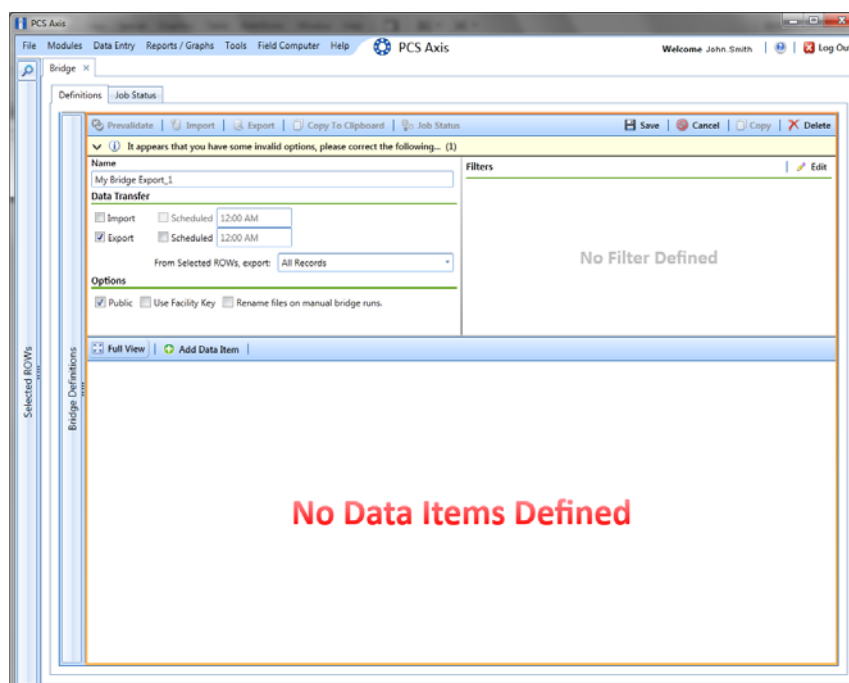

Figure 9-15. Bridge Export Definition
- 4 Type a unique name for the definition in the **Name** field (Figure 9-15, page 402).
- 5 To set properties in the *Data Transfer* group box, follow these steps (Figure 9-15, page 402):
- 6 To set properties in the *Options* group box, follow these steps (Figure 9-15, page 402):